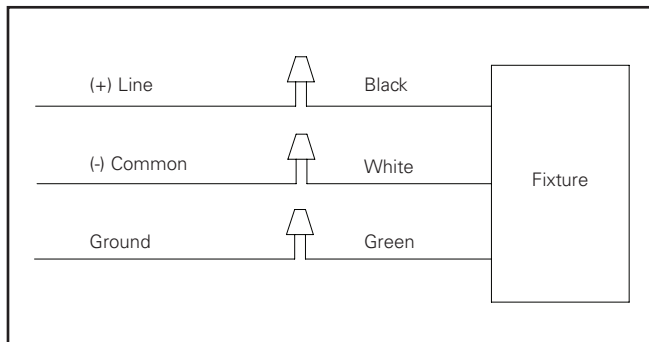

Figure 5.
- Connect luminaire to supply wires (Figure 5.):